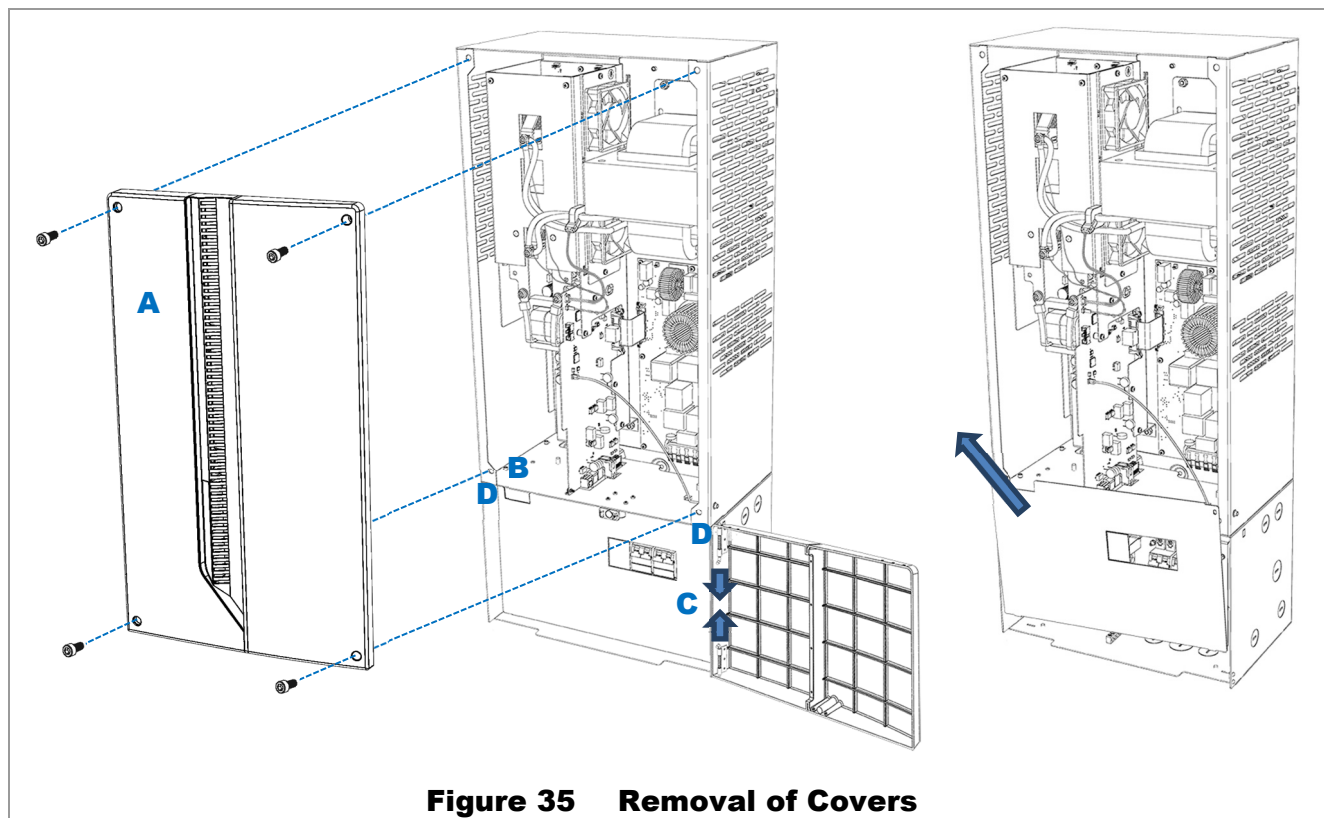

Figure 35 Removal of Covers
4. Using a 5 mm hex (Allen) wrench, remove 4 screws from the cover. Remove the cover. See **A** in Figure 35.